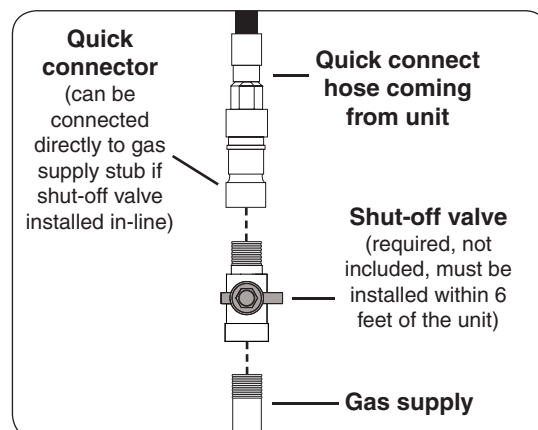

Fig. 3-5 Connect hose to gas supply
Important: A shut-off valve (not included) in the gas line is required. It provides for safety when the unit is not in use and for convenient maintenance and repair. It must be installed within 6 feet of the unit. Use a pipe joint compound resistant to all gasses on all male fittings except flare fittings. See Fig. 3-5.
2. Connect the quick connect hose to the shut-off valve OR gas supply using a pipe joint compound resistant to all gasses (see Fig. 3-5). Tighten securely.